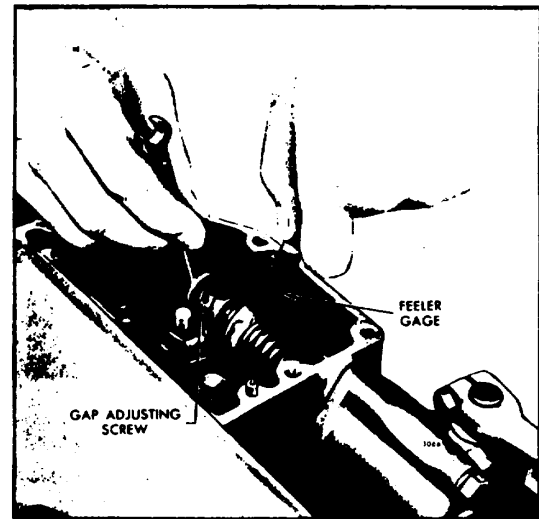

Fig. 2. Adjusting Governor Gap
4. Insert a .006" feeler gage between the spring plunger and the plunger guide as shown in Fig. 2. If required, loosen the lock nut and turn the adjusting screw in or out until a slight drag is noted on the feeler gage.